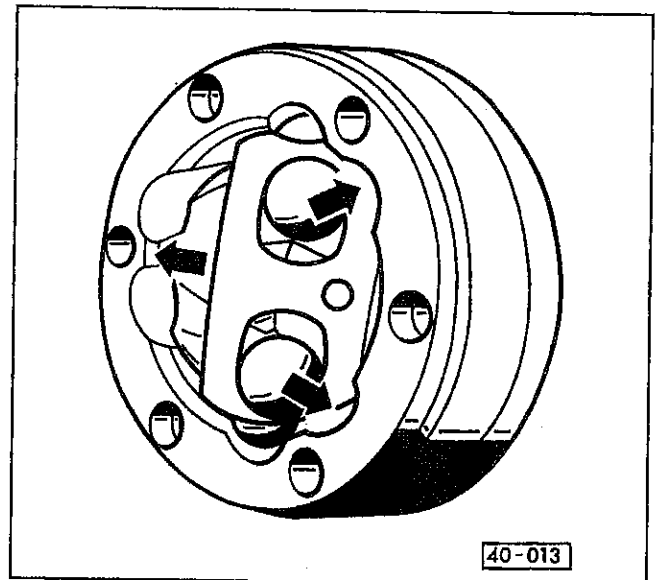

Fig. 30. Ball hub correctly installed into housing. Pivot hub out of cage (arrows) until balls are spaced to fit grooves.
9. Swivel ball hub with cage and balls into housing. Pivoting hub and cage until balls align. See Fig. 30.